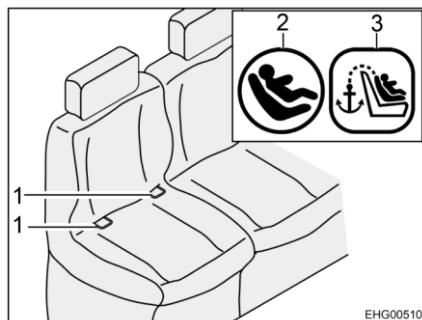
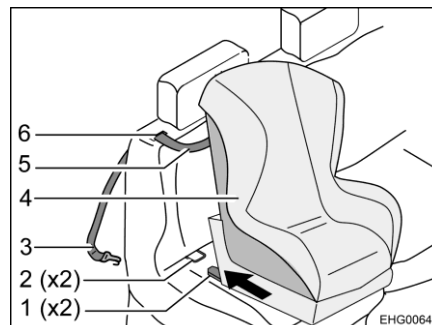

Fig. 12 Seat with ISOFIX
Fig. 13 Fastening with top tether
- Guide the top tether strap (Fig. 13,5) through the slot (Fig. 13,6) in the cushion of the backrest (next to the headrest).
- Hook the fixing hook (Fig. 13,3) onto the attachment point on the back of the vehicle seat.
- Have the connectors (Fig. 13,1) snap into the retaining clips (Fig. 12,1 and Fig. 13,2). While doing this, a distinctive click must be heard.
- With a strong jerk, check if the child seat (Fig. 13,4) is firmly connected.